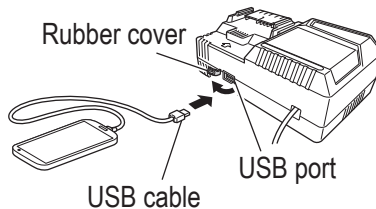

Fig. 44
2. Connect the USB cable. (Fig. 44)